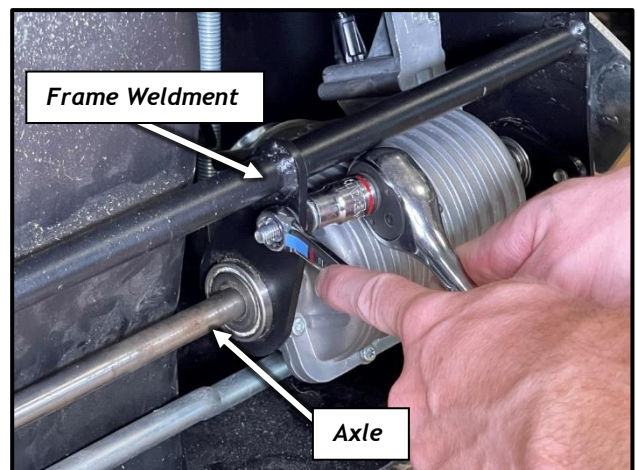

Figure 4
4. Remove the two bolts that connect the Axle to the Frame Weldment. Use a 7/16" Wrench on the nut, and a 3/8" Wrench or socket on the bolt Head (Figure 4).